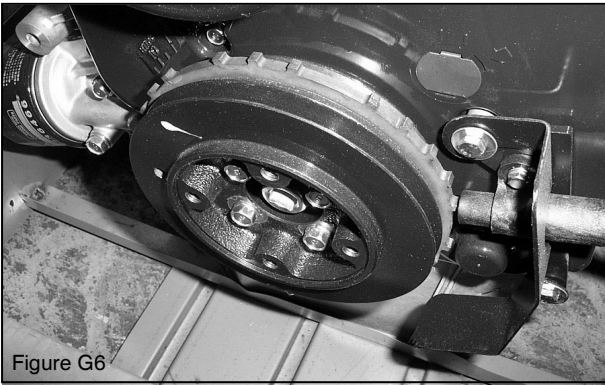

Figure G6
7. After you have completed setting the distributor alignment you will need to adjust the VR sensor used by the SECM for speed reference. This sensor is mounted near the crankshaft pulley wheel (Figure G6).